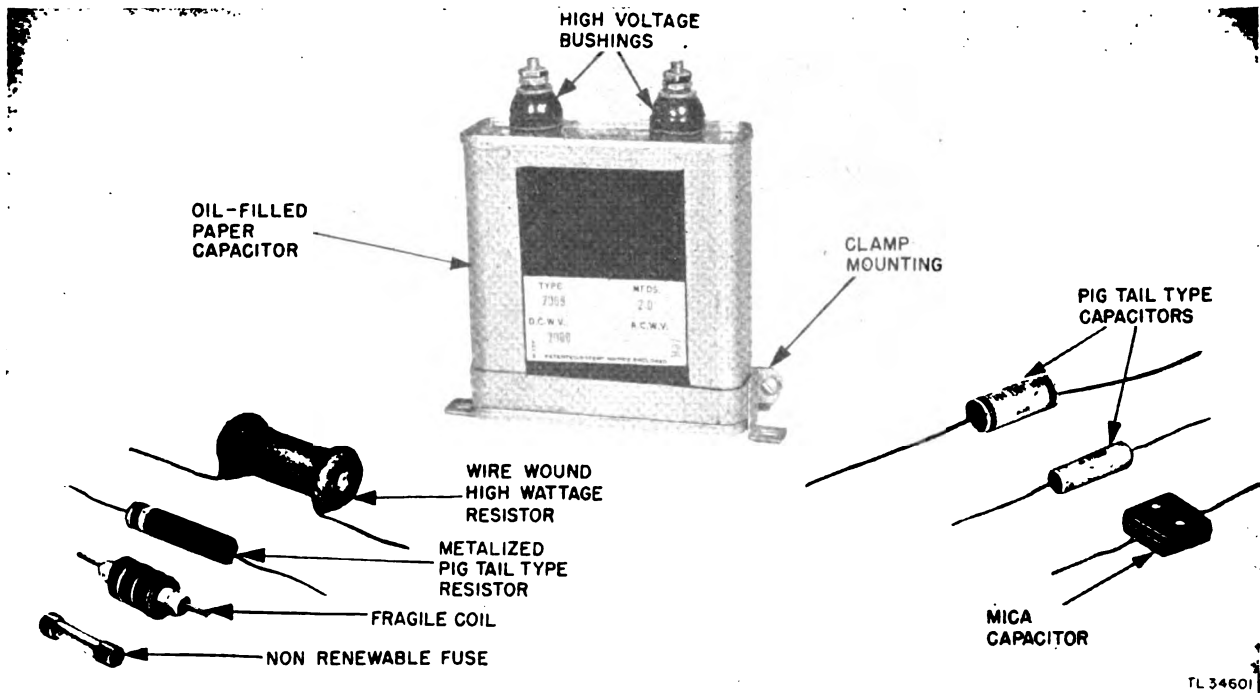

Figure 3. Common maintenance items.
Radio Equipment RC-184 uses many types of electrical devices and numerous varieties of any one type. (See fig. 3.) Since preventive maintenance operations cannot be applied indiscriminately the content of this section is for the guidance of personnel assigned to carry out the six basic operations, namely, FEEL, INSPECT, TIGHTEN, CLEAN, ADJUST, and LUBRICATE. The instructions contained in this chapter state the exact procedures for applying these operations and the variations introduced by the differences in individual items. Attention is called to the fact that the information presented in this section explains how the operations are to be performed. The maintenance schedule, explained in chapter 4, states the exact time when the various operations are to be performed. Since many of the basic preventive maintenance operations are performed upon all of the items, reference is made to as many operations as are applicable to each item. Items in chapter 4 are often passed over with the statement, "Inspect for general condition." The maintenance man should then refer to chapter 3 for a detailed analysis of the operations included and what is included in the maintenance to be performed on the specific item schedule. Such detailed analysis is presented below and throughout the rest of this chapter.
a. INSPECT (I). (1) The terminals of the capacitor must be inspected for corrosion and loose connections. The mounting assemblies of the capacitors should be carefully inspected to determine any loose mounting screws, studs, or brackets. Also inspect the leads to the capacitors for poor insulation. This condition is characterized by cracks and dry rot. The conductor connections at the terminals should be inspected for breakage and frayed insulation. Correct the frayed insulation by removing the loose strands. If too much bare wire is exposed cover it with friction tape.
(2) The case of each oil-filled capacitor should be thoroughly inspected for leaks, particularly if there are signs of oil. Whenever a capacitor is found to be leaking oil, it should be removed and replaced if replacement is available. Occasionally, a defective capacitor case may be found whose seams are improperly soldered and leaking oil. To leave such a capacitor in the circuit is not wise, but if a replacement is not available, locate the leak and resolder the seam. If the leak is resoldered from the outside, before an appreciable amount of oil has leaked out, the capacitor may be as good as it was originally.
b. TIGHTEN (T). Loose terminals, mountings, and connections on all the capacitors must be tightened. Be careful not to exert too much force in tightening. Avoid possible damage to the bushings.
c. CLEAN (C). The case of the capacitor, the insulating bushings, and the connections should be cleaned whenever they are found to be dirty, rusted, or corroded. The capacitor cases can usually be cleaned with a dry cloth, but if the deposit of dirt on these parts is hard to remove, the cloth may be moistened with some solvent such as carbon tetrachloride. The bushings should be carefully dried with a dry cloth after they are cleaned. Corroded connections should be sanded with fine sandpaper and properly tightened. If necessary, repaint any exposed surfaces of the cases.
c. INSPECT (I). The coating of the wire-wound resistors must be examined for cracks and chipping, especially at the ends. (See fig. 3.) Look for blistering and discoloration which indicates overheating on the bodies of all types of resistors. Look for arc pits. Inspect the leads, and all connections for corrosion, dirt, dust, and looseness. Look for broken strands in the connecting wire. Check for security of mountings. Do not attempt to move resistors with pigtail connections because there is danger of breaking the pigtail connection at the point where it enters the body of the resistor. Such defects cannot be repaired. Inspect the connections of the pigtail resistors for proper soldering.
d. TIGHTEN (T). All loose resistor connections and mountings are to be tightened. If the resistor is allowed to remain loose, vibration may break the connection or damage the body.
e. CLEAN (C). (1) All dirty or corroded connections of resistors should be cleaned with a brush or cloth dipped in carbon tetrachloride. Vitreous resistors must be kept clean to avoid flashover or leakage between the terminals. Resistors should be wiped with a dry cloth, but if a dirt deposit is hard to remove, use carbon tetrachloride on the cloth.
(2) Discolored resistors cannot be cleaned. Slight discoloration of the resistor body at the center is normal. However, excessive discoloration is indicative of overloading at some time prior to the inspection and is probably due to some circuit trouble which requires an analysis. Such analysis will be described in TM 11-1532 (when published).
(3) Resistors with pigtail connections should be cleaned with a small brush.
a. GENERAL. (1) Fuses are small strips of metal with a low melting point. They are inserted in series with an electrical circuit to open the circuit when the amount of current in the circuit exceeds a prescribed value. (See fig. 3.) Such fuses serve to protect equipment against overload and damage. The type of fuse used in Radio Equipment RC-184 is nonrenewable, and when blown must be replaced in its entirety. Whenever a fuse blows, an effort should be made to discover the reason for the failure and to make corrections, if possible, before a new fuse is installed.
(2) Nonrenewable or one-time fuses (fig. 3) are to be thrown away when blown and replaced with good fuses. The holder and fuse can be unscrewed from its socket. Care must be taken to see that the contact surfaces of the fuse and socket are kept clean and tight.
b. INSPECT (I). The fuse caps are to be examined for evidence of burning, charring, or corrosion. Examine the fuse clips for tension, dirt, or loose connections.
c. TIGHTEN (T). All connections to the fuse clips must be resoldered if they are loose.
d. CLEAN (C). All fuse ends are to be cleaned, when needed, with fine sandpaper and wiped with a clean cloth. If a file is used to remove deep pits in fuse ends or contacts, always polish afterwards with fine sandpaper in order to leave a smooth contact surface. Finish by wiping with a clean cloth.
a. GENERAL. (1) Insulator bushings are used in the high-voltage circuits of the Radio Equipment RC-184, and are constructed of ceramic material with a highly glazed surface. Since an insulator is no better than its surface, deposits of fine substances upon the surface will materially reduce the insulation value of the bushing. It is important that bushings used in high-voltage circuits be inspected frequently.